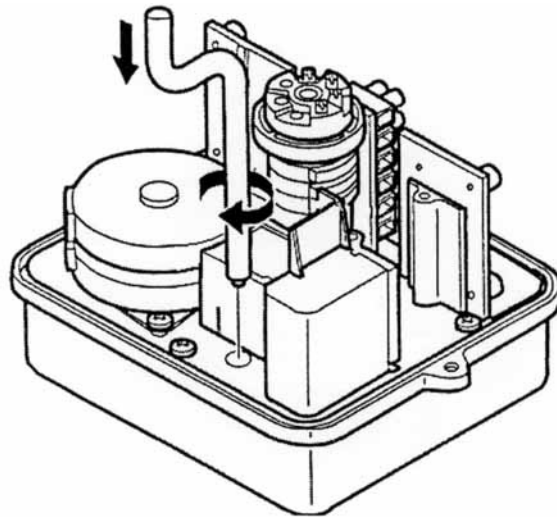

Figure 3
3. Insert manual adjustment tool (P/N 30310) into hole shown in diagram in figure 3.